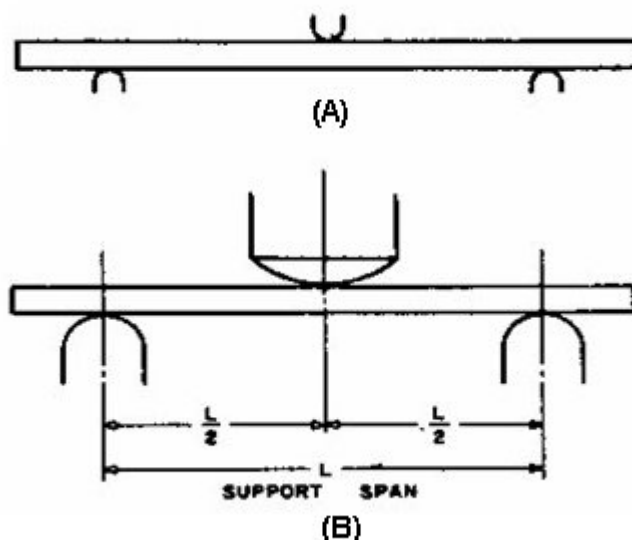

Fig 1. Loading Noses and Supports Diagram Three-point Loading
2.3. Three-point loading flexural test: The bar rests on two supports and is loaded by means of a loading nose midway between the supports (see Fig 1).
The radius of the nose or noses and supports shall be at least 3.2mm for all specimens as shown in Fig 1 and Fig 2. For specimens 3.2mm or greater in depth, the radius of the supports may be up to 1.5 times the specimen depth and the radius of the loading noses may be up to 4 times the specimen depth.